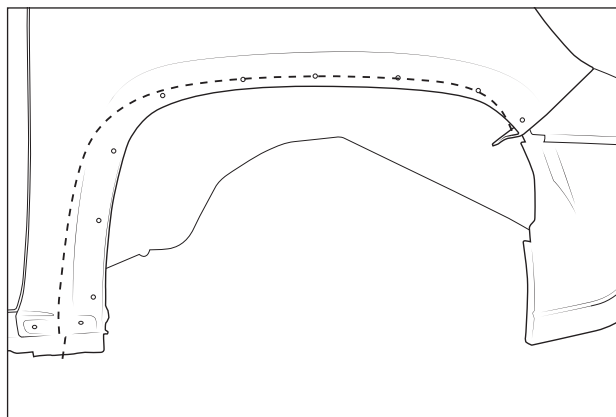

Figure 2
4. While the template is aligned with the fender, mark sheet metal along solid line as directed on template. Then remove the template and begin cutting (fig. 2).